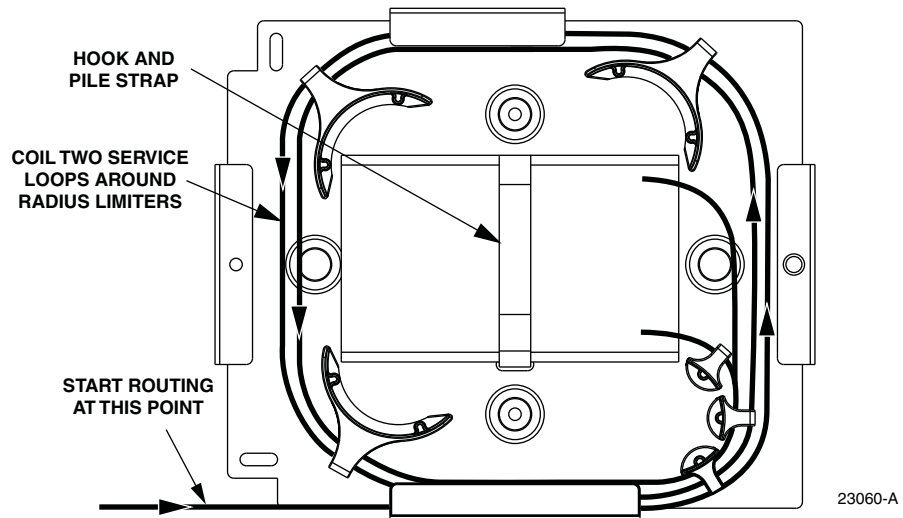

Figure 24. Feeder Splice Tray Replacement - Stranded Fiber Splicing
12. To replace the splice tray, route the attached subunits (there should be two service loops) around the splice tray holder radius limiters as shown in Figure 24. Avoid twisting or kinking the fiber subunit tubes.